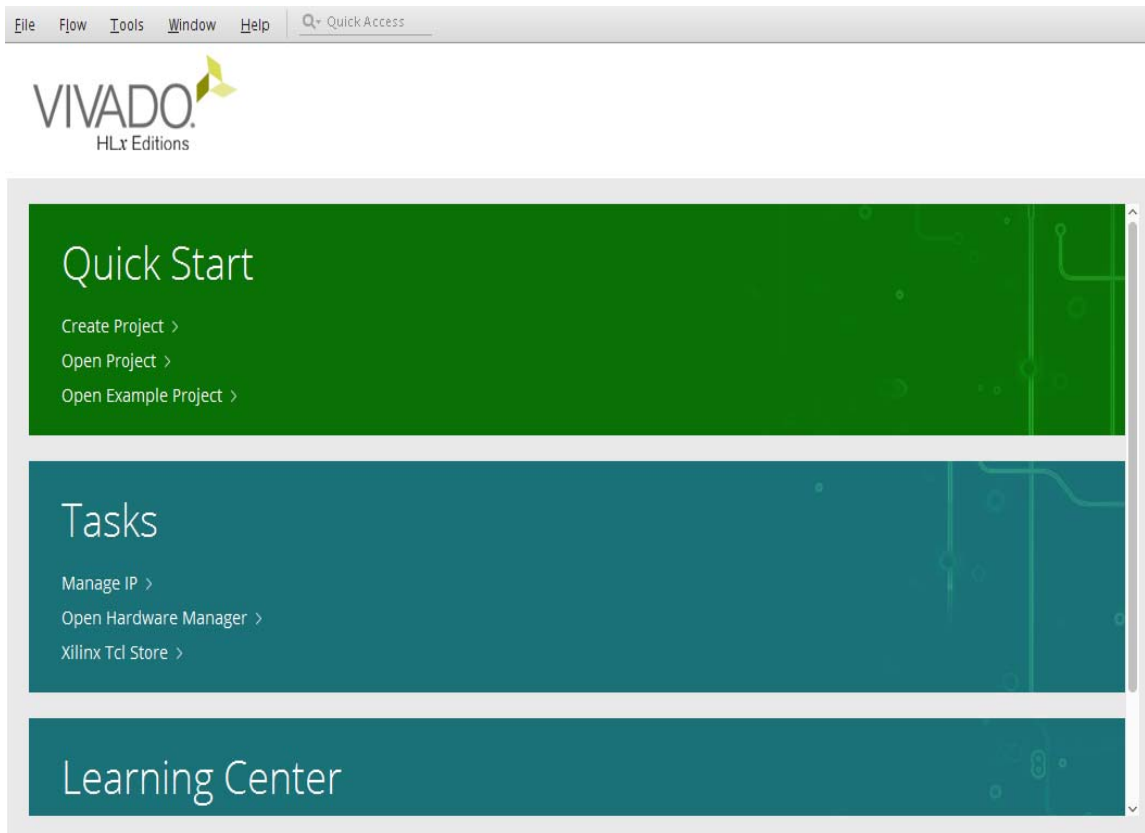

Figure 9-2: Create a Vivado Project
2. From the Welcome screen, click **Create Project** (Figure 9-2).